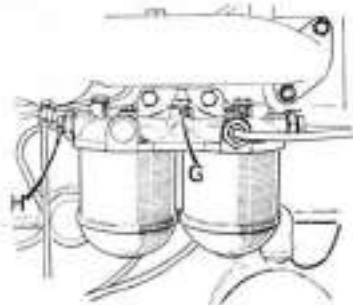

FIGURE 5/11.
3. Clean the outside of the filters. Remove the plug G, Fig. 5/11 and slacken the connection H. Operate the fuel pump and tighten in the order G then H as the fuel appears at each point.